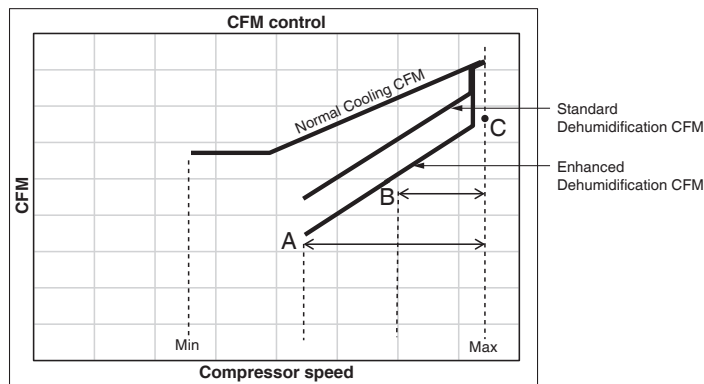

Figure 1
- In addition, the system can have Enhanced Dehumidification operation in setting “A”, “B” or “C” based on dehumidification demand. In the Enhanced Dehumidification the indoor airflow is lower than Standard Dehumidification. Setting “A” allows for the widest compressor range with lower cfm than standard dehumidification. Setting “B” limits compressor operation range and keeps high dehumidification capacity. In setting “C” the system runs fixed at 100% compressor and airflow. See Figure 1.